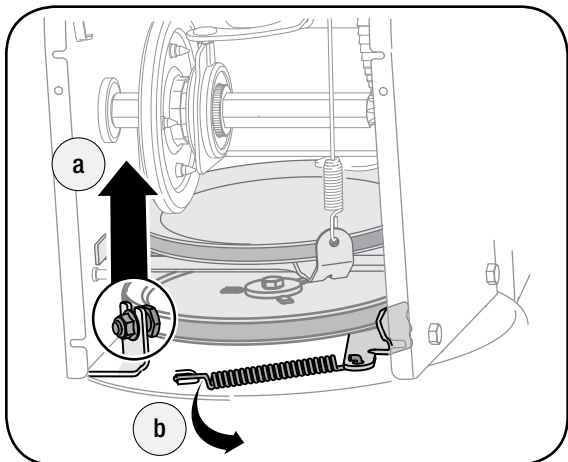

Figure 6-7
4. a. Loosen and remove the shoulder screw which acts as a belt keeper, Figure 6-7.